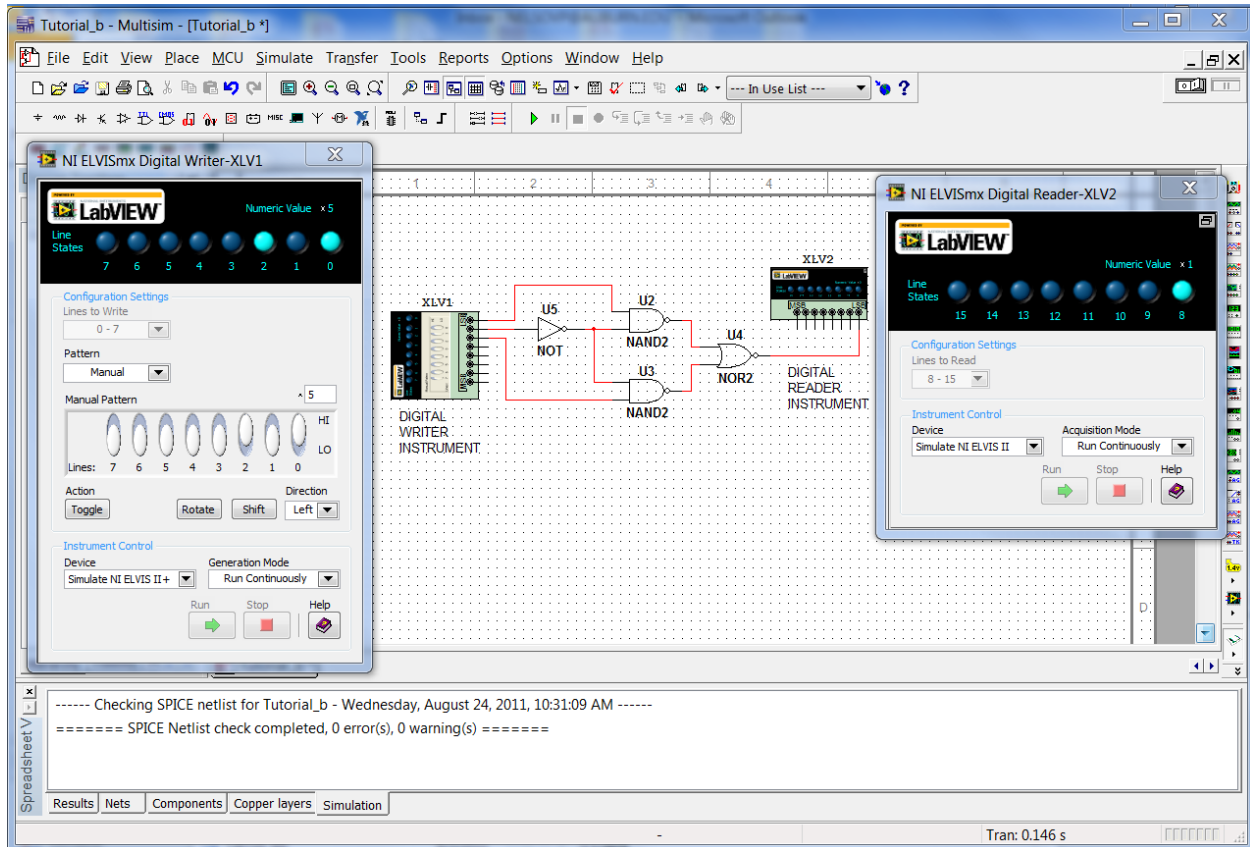

**Figure 9. NI ELVISmx Digital Writer and Digital Reader Instruments**
*Multisim* also provides a number of simulated “instruments,” comparable to bench-top electrical test instruments, that can be incorporated into electrical simulations. Two of these, in particular, can be used to stimulate the inputs of a digital logic circuit: the NI ELVISmx “Digital Writer” and the “Word Generator”. The designation “NI ELVISmx” indicates a simulated version of a physical instrument on the ELVIS workstation. Recall that the Digital Writer and Digital Reader, illustrated in Figure 9, were used in the first lab session to provide inputs to, and display outputs of digital logic circuits. On the ELVIS workstation, these instruments are connected to a circuit via the Digital I/O connections at the right side of the unit. Recall that each Digital Reader/Writer can be connected to up to eight signals.
In *Multisim*, the Digital Writer instrument can be selected via the shortcut icon on the right side of the main window (click on the button “NI ELVISmx Instruments” and select the NI ELVISmx Digital Writer.) You may also select this instrument from the menu bar **Simulate>Instruments>NI ELVISmx Instruments>NI ELVISmx Digital Writer**. The selected instrument is placed on the drawing sheet and connected to wires in the same way as any other component, as shown in Figure 9.
Another useful indicator is the NI ELVISmx Digital Reader instrument, described earlier and shown in Figures 9 and 10. The Digital Reader is essentially just a set of 8 lights that show the states of the wires connected to its inputs. Logic 1 turns the light ON and logic 0 turns it off. (The circuit output in Figure 10 is currently 1.) As mentioned above, the Digital Reader corresponds to the physical instrument available on the ELVIS workstation.